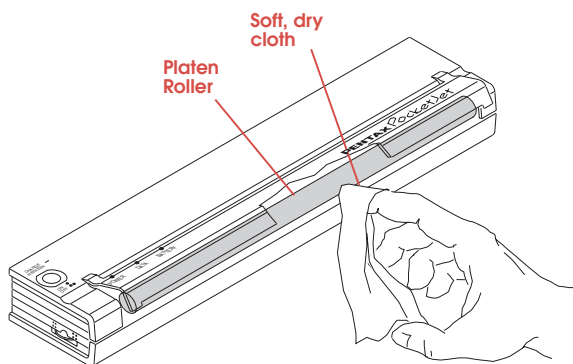

FIGURE 20. *Cleaning the platen roller.*
- 2 Clean the platen roller with a soft, dry, lint-free cloth to gently remove any dirt or debris on the roller. See Figure 20.